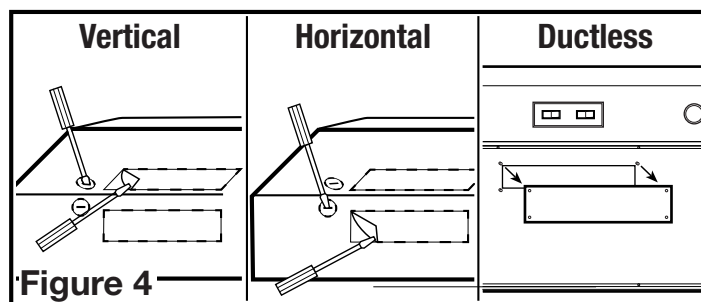

Figure 4
- 2a. **Horizontal or Vertical** - Remove the appropriate square knockout by inserting a screw driver under the edge and break the tabs holding it in place. Peel back with pliers (**Figure 4**).
- 2b. **Ductless** - Using a 3/8" nut driver or ratchet, remove & discard the 4 nuts holding the ductless block-off plate. This will expose the grill vents on top of the hood (**Figure 4**).
3. Determine where the electrical service will enter the hood and remove the appropriate electrical knockout by inserting a screw driver into the slot and rocking back and forth until the knockout comes loose (**Figure 4**).
NOTE: FOR DUCTLESS INSTALLATIONS ONLY, if you did not already do so in the earlier steps, remove the vent block-off plate from under the top of the hood (Figure 4).